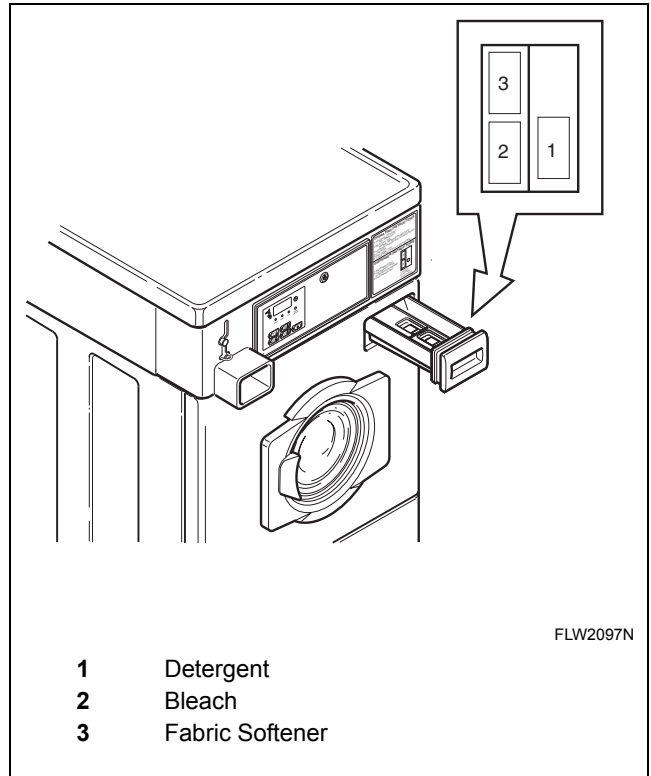

Figure 20
Open dispenser drawer. Measure and add low sudsing detergent (1), bleach (2) and fabric softener (3) to the dispenser drawer (refer to *Figure 20*). Close dispenser drawer.